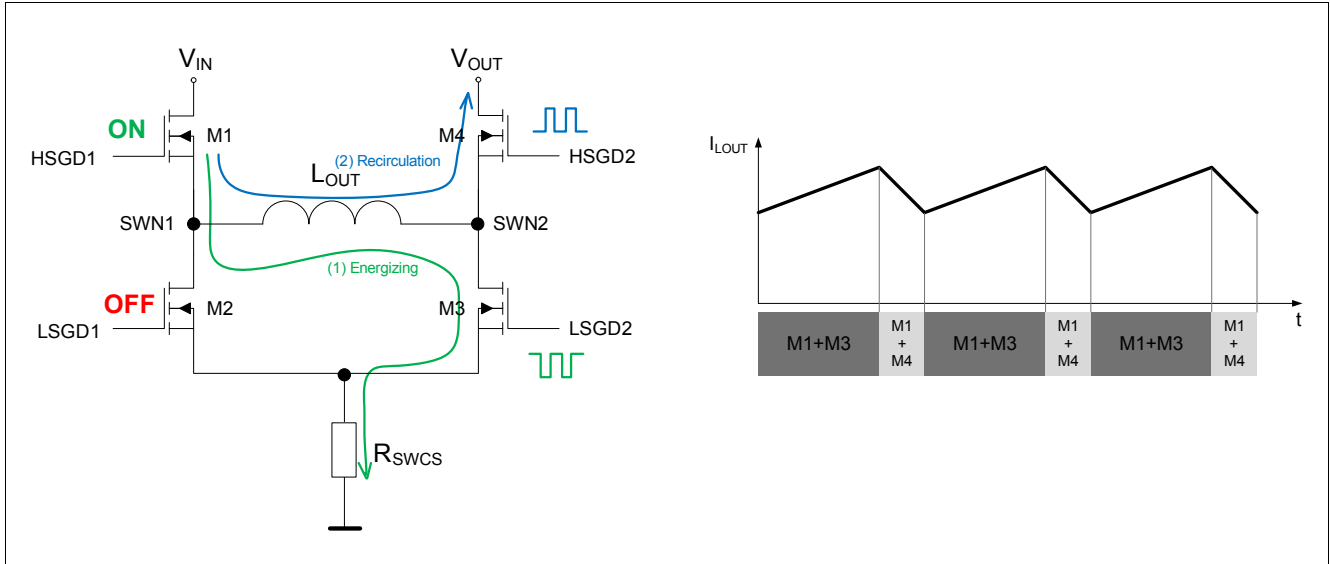

Figure 12 4 switches H-Bridge architecture in BOOST mode
- Switches M3 and M4 alternate, behaving like a typical synchronous boost Regulator (see Figure 12)